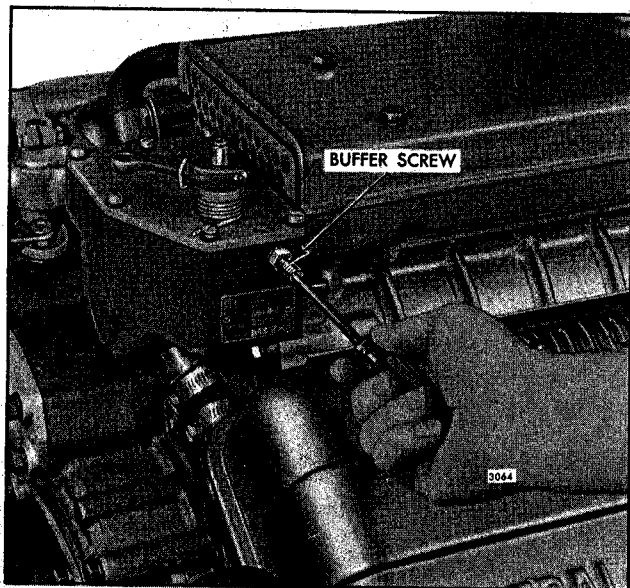

Fig. 6 - Adjusting Buffer Screw
1. With the engine running at idle speed, turn the buffer screw in (Fig. 6) so that it contacts the differential lever as lightly as possible and still eliminates engine roll.